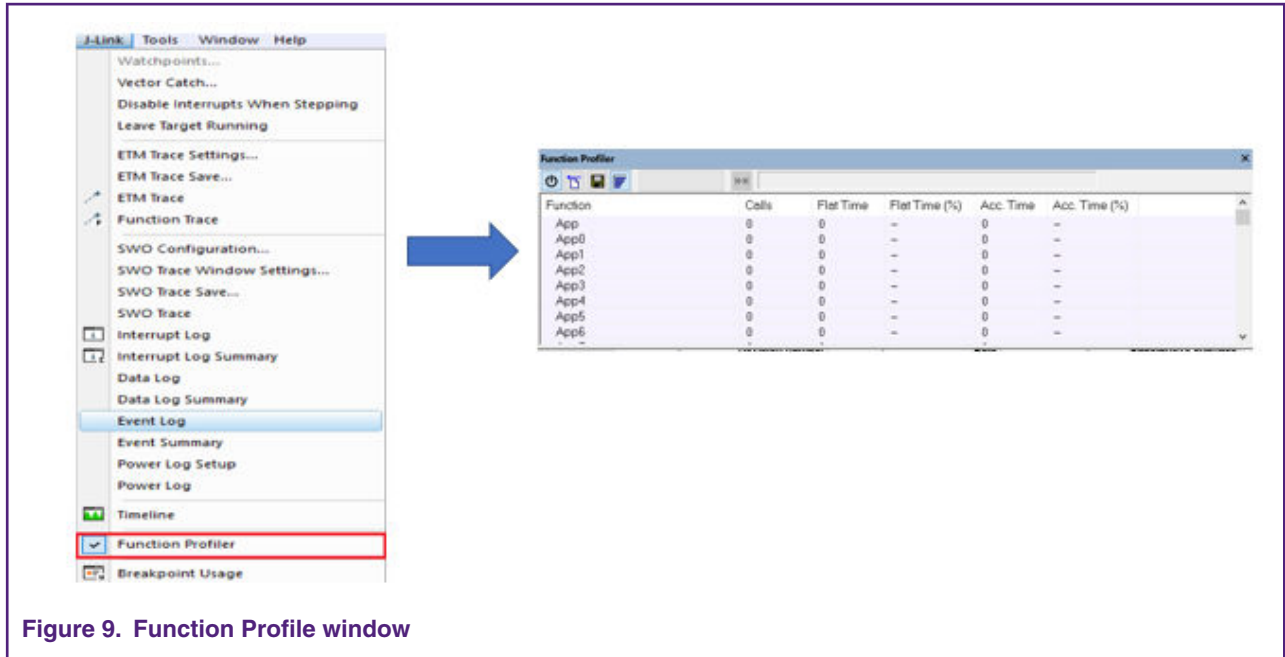

Figure 9. Function Profile window
2. Click **Function Profiler** to open the **Function Profiler** window. Figure 9. on page 12 shows how to open the **J-link** window and **Function Profile** window.